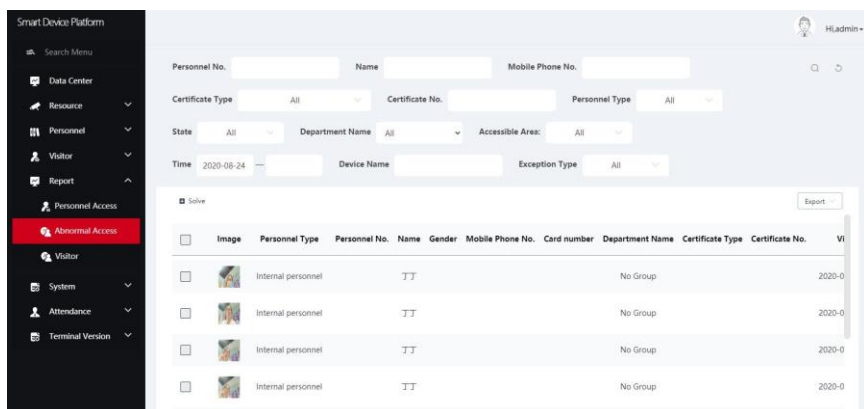

Figure 5-58
Step 1: In the smart device platform interface, click "Report→Abnormal Access" to enter the abnormal access interface, as shown in Figure 5-58 below.